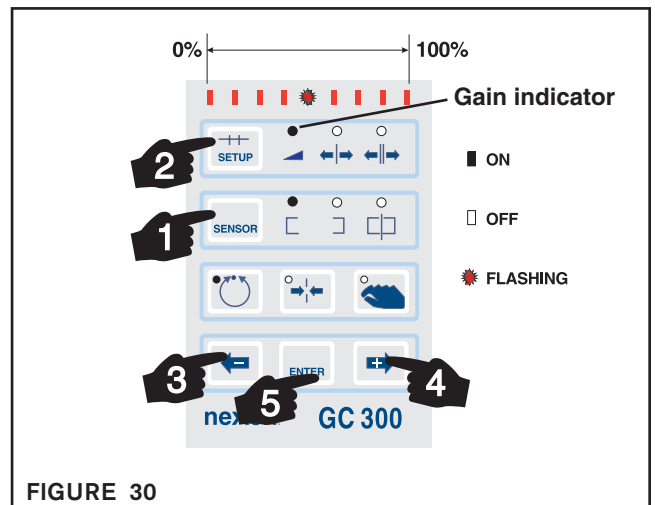

FIGURE 30
1. Repeatedly press the SENSOR Key until the indicator of the sensor, whose gain is to be adjusted, is lit (See Figure 30).
2. Press the SETUP Key once; the indicator for Gain will light up (See Figure 30).
3. The number of red indicators on the Bar Graph that are lit indicate the current value of gain for the sensor selected, compared with its maximum value. If half the indicators are lit, the gain is at half of the maximum value (See Figure 30).
**NOTE:** Press and release the - or + key to incrementally change the value setting. Press and hold the - or + key for more than one second to ramp the value setting up or down (See Figure 30).
4. Press the - or + key to increase or decrease the value setting. The green indicator in the middle of the Bar Graph should flash while the + or - key is pressed (See Figure 30).
5. After reaching the desired value, press the ENTER Key to store the value into memory, the Gain indicator will turn off, and the GC300 will now return to normal operation mode (See Figure 30).
the Gain is changed, no change is stored in the GC300 memory and the GC300 will return to Normal Operation mode (See Figure 30).